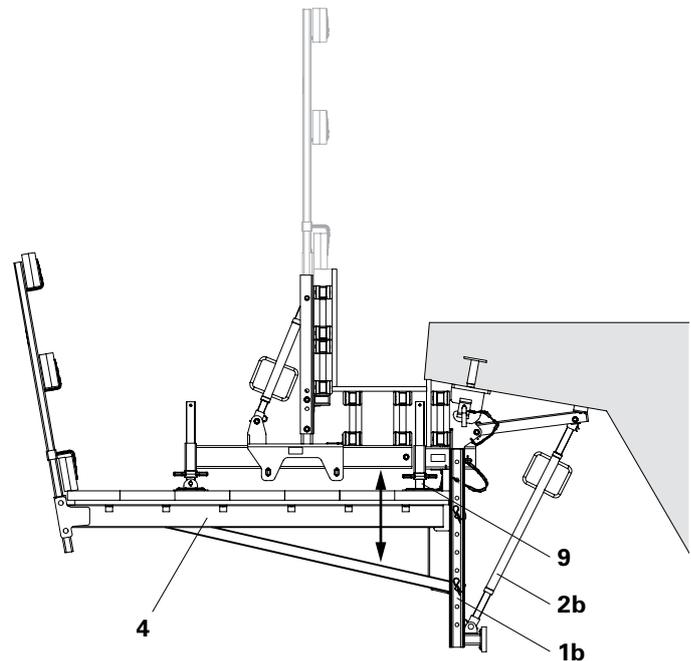

Fig. A4.02b
- The Platform Cantilever Beam VGK 170 (4) is connected to the holes on the Bracket Post VGK 110 (1b) according to the dimensions of the cantilevered parapet. (Fig. A4.02b)